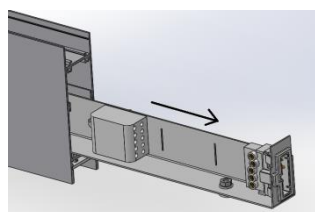

Fig.1
- 2) Slide out the gear tray with the connection terminal (so it's visible) (Fig. 1)